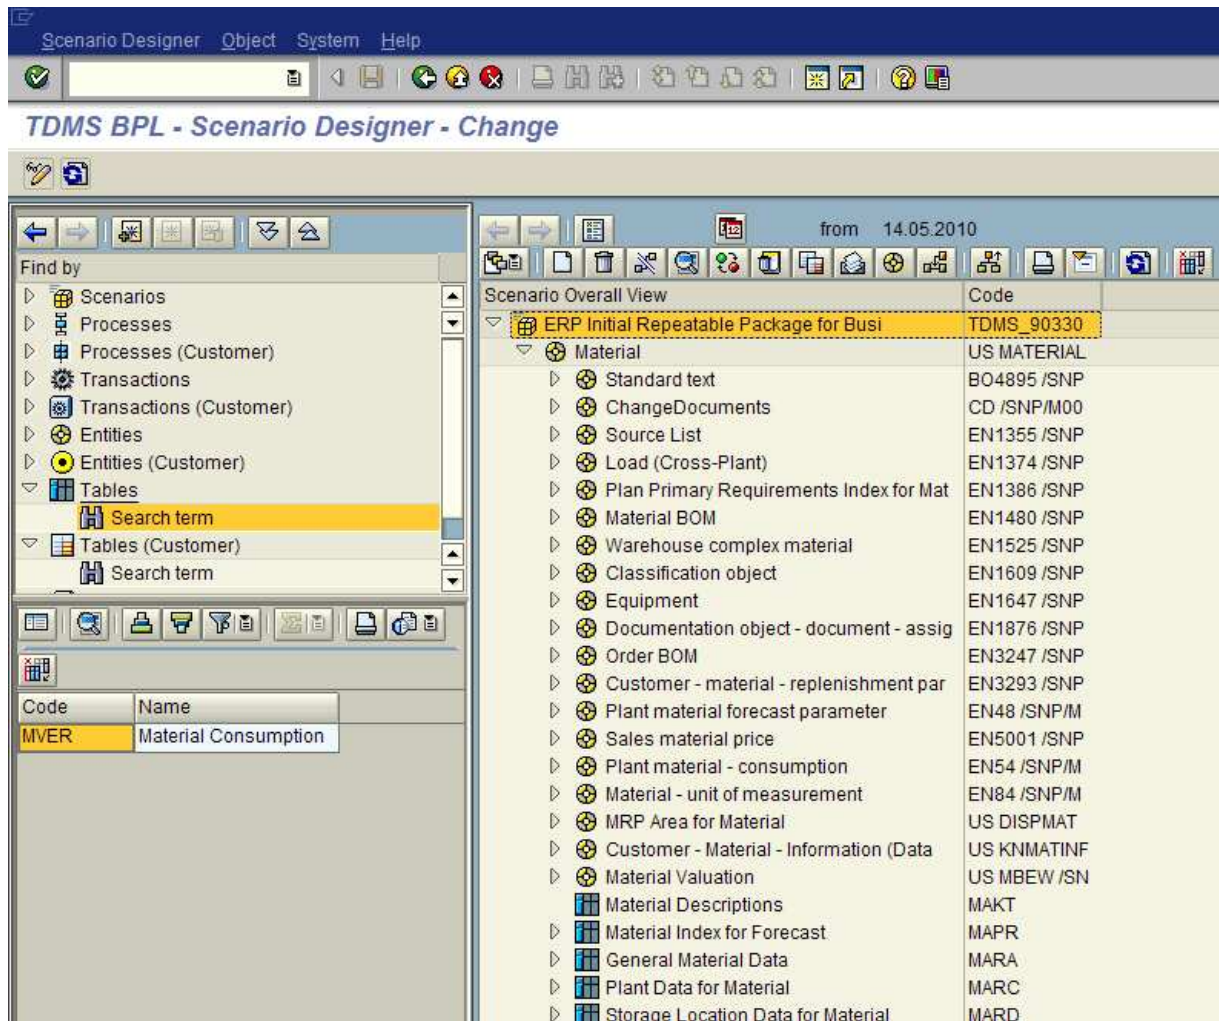

Figure 8: Table MVER is listed as a search result
- Table MVER is listed in search result area (see Figure 8). If needed, configure the displayed columns according to your needs via the *Column Configuration* icon  in search result area.